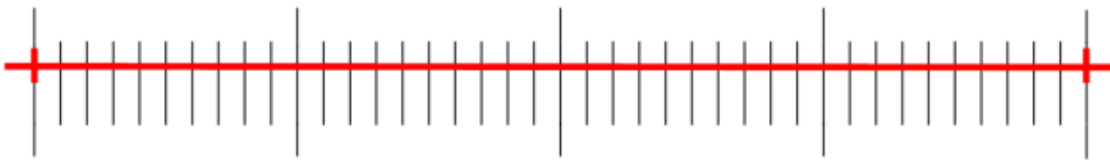

Figure 5-8
4. The minimum range of the selected micrometer is 0.01 mm (10 micron). Figure 5-8 shows the image under a ten× objective lens. At this time, the “magnification” is set to “10X”, the “unit” is marked as “μm”, and the “length” is set to “40”.